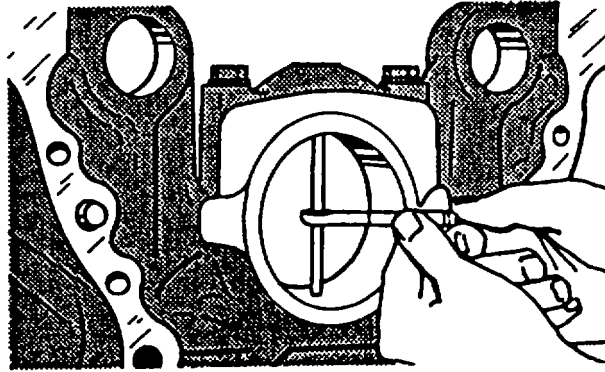

FIGURE 3-157. Measuring Main Bearing Bore diameter
- (1) Measure main bearing bore diameter, refer to FIGURE 3-157. Main bearing bore diameter must be 3.325 to 3.326 inches (84.46 to 84.48 mm).
- (2) Measure engine block main thrust bearing width. Width must be 1.3235 to 1.3275 inches (33.62 to 33.72 mm)
- (3) If bearing caps are damaged, or bore is not within specification, replace cylinder block.